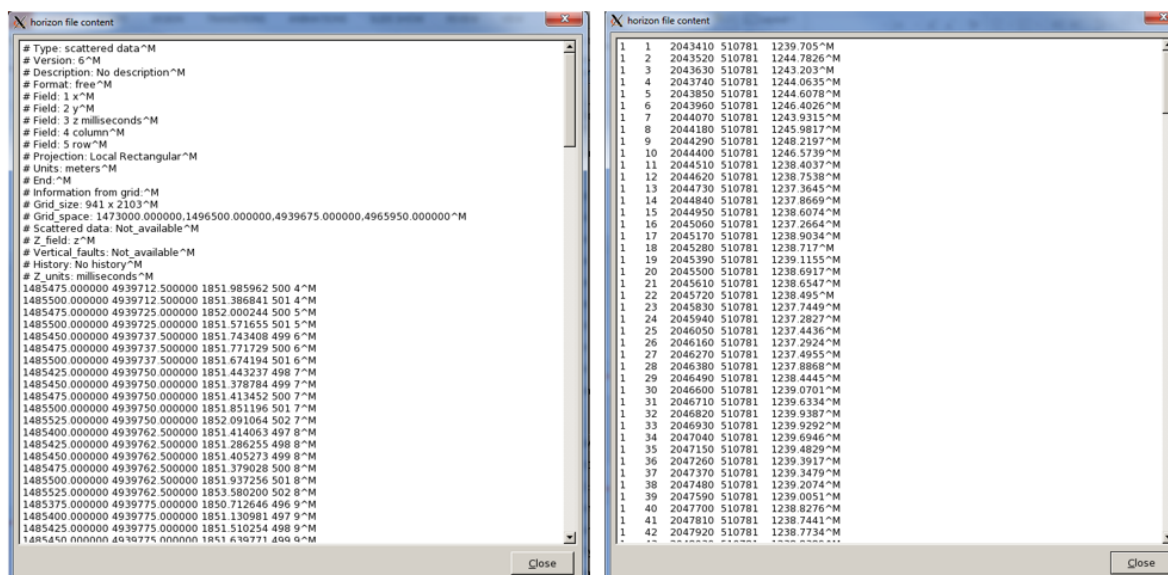

Figure 1. (left) A gridded horizon file (EarthVision format). (right) An interpolated horizon file with five columns (ASCII free format).
5. Button that displays the horizon contents (see Figure 1).
6. Button to convert horizons from Windows to Linux format. If the files are generated from Windows based software (e.g. Petrel), they will have the annoying carriage return (^M) at the end of each line (Shown in Figure 1). Use these two buttons to delete those carriage returns. Note: This function depends on your Linux environment. If you do not have the program **dos2unix** it may not work. In these situations, the files may have been automatically converted to Linux and thus be properly read in.
8. Button that displays the horizon contents (see Figure 1).
10. Toggle that selects the horizon format. Currently *gridded* (e.g. EarthVision in Petrel) and *interpolated* (ASCII free format, e.g. SeisX) formats are supported. The gridded horizon are nodes of B-splines used in mapping and have no direct correlation to the seismic data survey. For example, gridded horizons may be computed simply from well tops. The x and y locations are aligned along north and east axes. In contrast interpolated horizons have are defined by *line_no*, *cdp_no* (*crossline_no*) and *time* triplets for each trace location. Examples of both format are shown in Figure 1. If *interpolated* is selected, the user needs to manually define each column in the file.